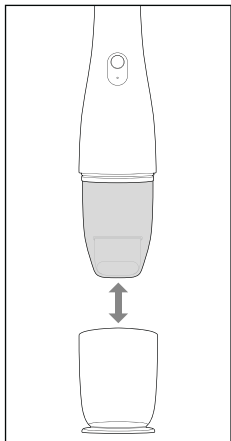

Fig. 4
1. Hold the appliance by the handle **9** and pull the cap **1** off the appliance (see Fig. 4).
5. Push the cap **1** back onto the appliance (see Fig. 4).